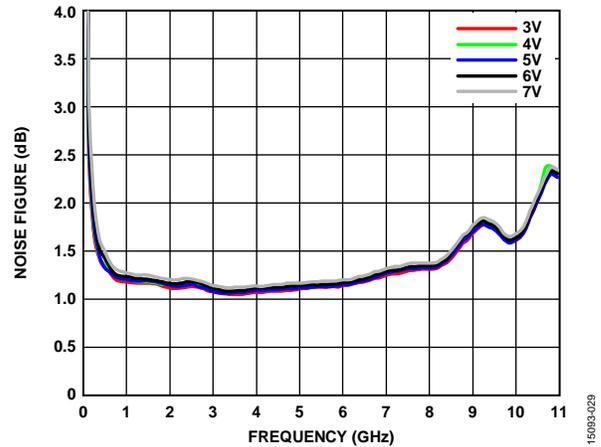
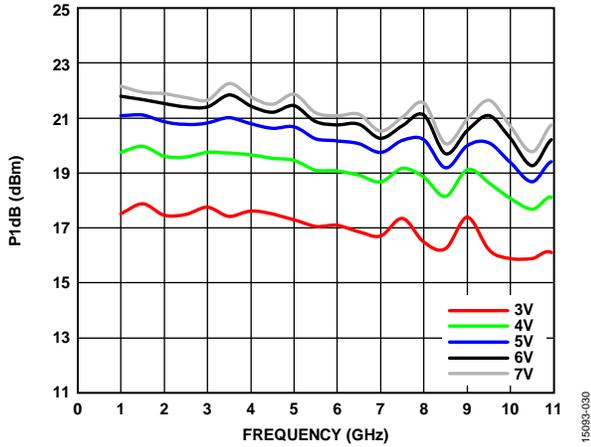
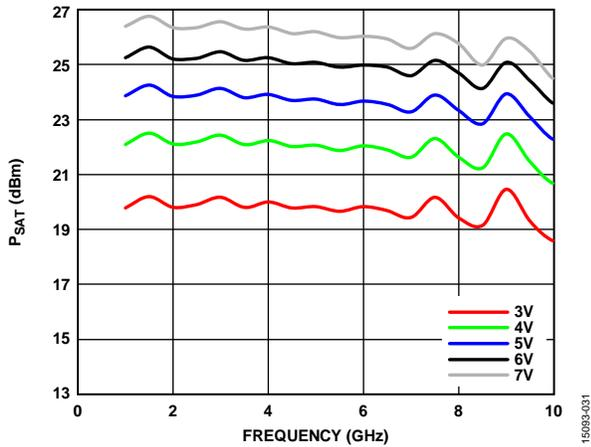

Figure 29. Noise Figure vs. Frequency for Various Supply Voltages,  $I_{DQ} = 65 \text{ mA}$
Figure 30. P1dB vs. Frequency for Various Supply Voltages,  $I_{DQ} = 65 \text{ mA}$
Figure 31.  $P_{SAT}$  vs. Frequency for Various Supply Voltages,  $I_{DQ} = 65 \text{ mA}$
Figure 29, Figure 30, and Figure 31 show that increasing the voltage from 3 V to 7 V typically increases P1dB and PSAT at the expense of power consumption with minor degradation on noise figure (NF).